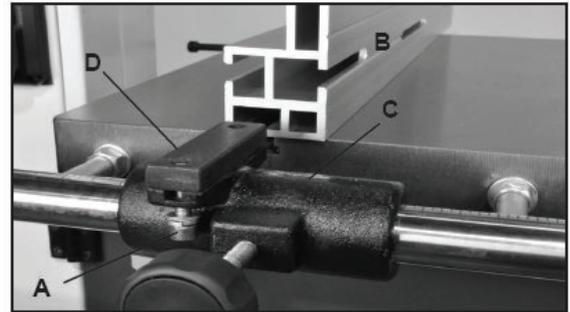

FIGURE 35
1. Loosen the two Hex Screws (A, Fig. 35) which hold the Rip Fence (B, Fig. 35) to the Fence Carrier (C, Fig. 35). Slide the fence forward to remove it from the carrier's Sliding Block (D, Fig. 35).
3. Loosen the two Hex Screws (Fig. 35, A) which hold the Rip Fence to the Fence Carrier. Slide the fence forward to remove it from the carrier's Sliding Block.